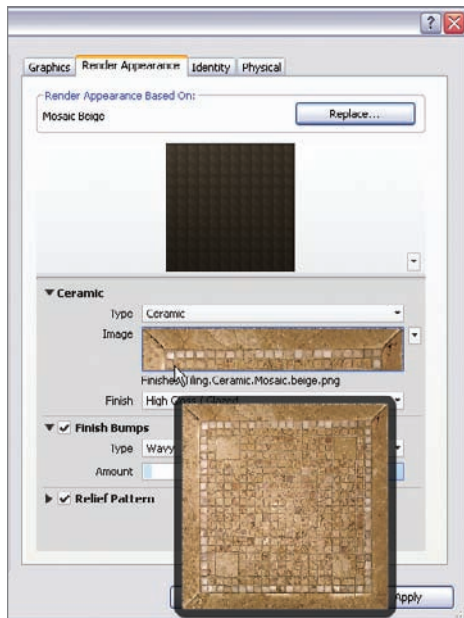

FIGURE 9.72 Configuring your render appearance for the tile floor
11. Back on the Render Appearance tab, click Finish Bumps. This will make the rendering punch out (see Figure 9.72).